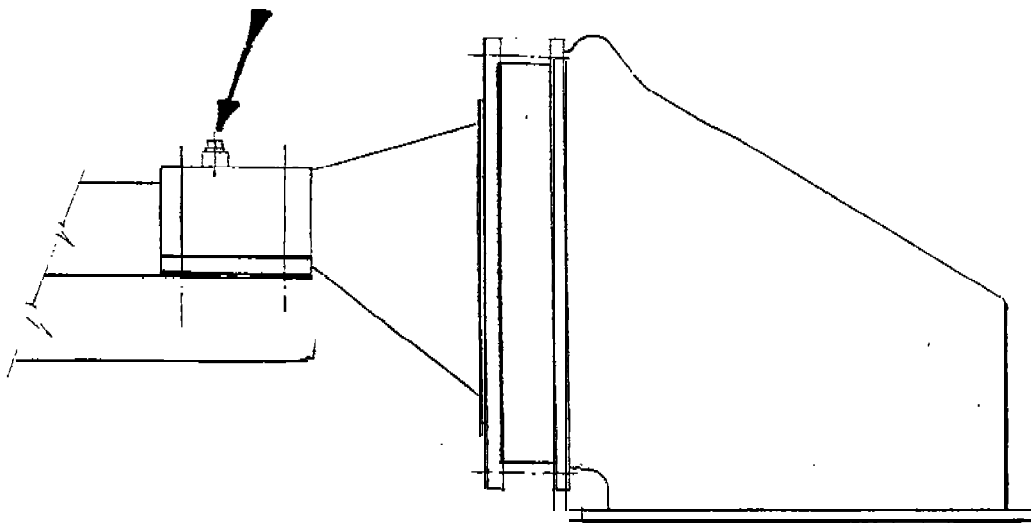

Figure 13. Intake Vacuum Location
24. () Connect a manometer or magnehelic (vacuum gauge) to the intake vacuum port show in Figure 13. Run the engine at full throttle with no load. The intake vacuum does not exceed 25" of water.